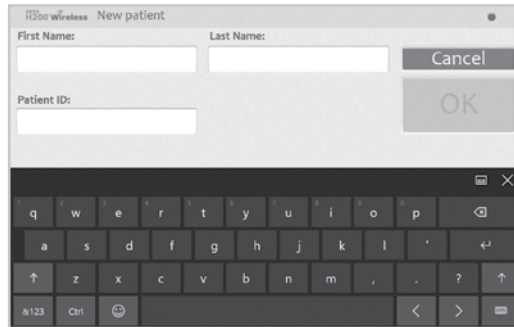

Figure 8-14: New Patient Window
2. For new patients, enter the patient's first and last name (alpha characters only) in the New Patient window, and assign a patient ID (1–14 characters). All fields must be completed. Then press **OK**. See Figure 8-14.